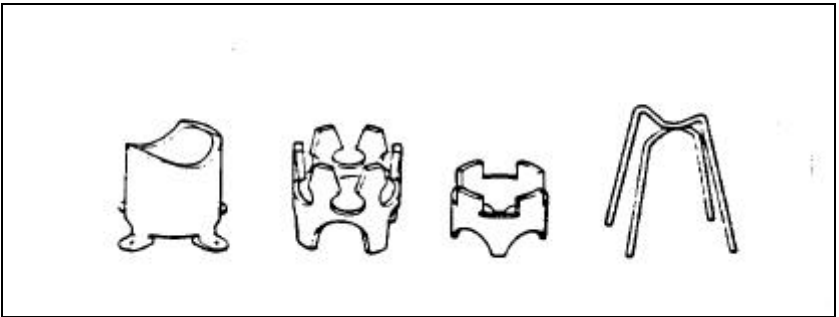

Fig 12-5-2 Spacers
4. All reinforcement shall be covered by a minimum depth of concrete, usually 30 mm. To ensure that the correct cover is maintained, it is important to prevent the reinforcing from moving when the concrete is poured. This is achieved by using spacers. They may be manufactured or locally produced concrete blocks. If concrete blocks are used, the mesh is tied to them with wire to prevent movement (Fig 12-5-2). When mesh sheets are used, they must be joined end to end by a 30 mm overlay. Side overlay is not necessary.